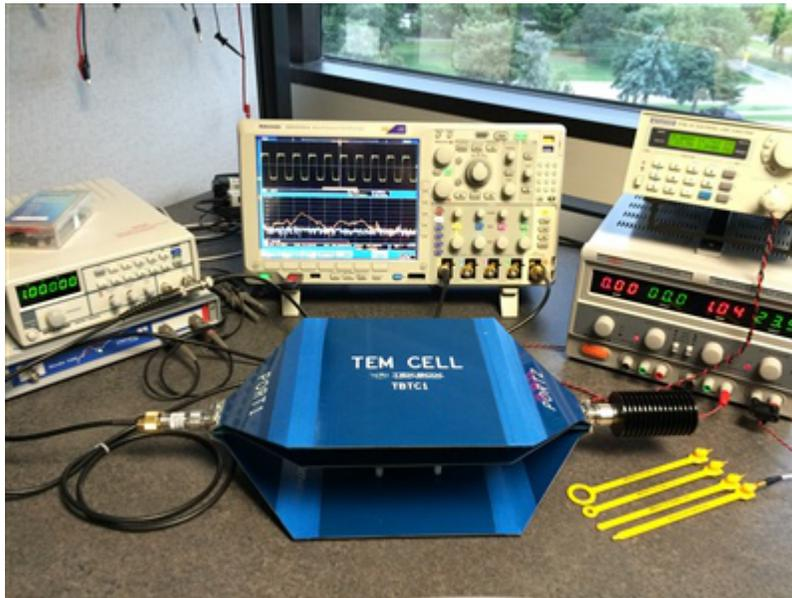

Figure 1. TEM Cell Measurement Setup with the LMG5200 Converting 24 V to 12 V at 1 MHz and 24 W
The first piece of equipment necessary for measuring EMI is a spectrum analyzer (SA). Acceptable performance can be found for around \$1,500. On my bench I'm using a MDO4104-6 mixed domain (Time and Spectrum Domain) oscilloscope with a SA input good to 6 GHz. I also make use of E-field and H-field probes to localize problem areas on the board – Figure 1 shows both the MDO4104-6 and field probes.
When picking H-field and E-field probe shielding, resolution and sensitivity are important. Years ago, Bruce Carsten developed an “EMI sniffer” probe that was able to localize EMI problems at the PCB trace level – spatial resolution was about 1mm. The probes like those on my on my bench can be purchased for around \$300. Figure 1 also shows a transverse electromagnetic open (TEM) cell that I use to quickly determine how good (or bad) a SMPS design is. The TEM is a versatile, low cost and (in my opinion) necessary piece of equipment for pre-compliance-radiated emission testing. See this excellent article for details on how a TEM works and how to build one.